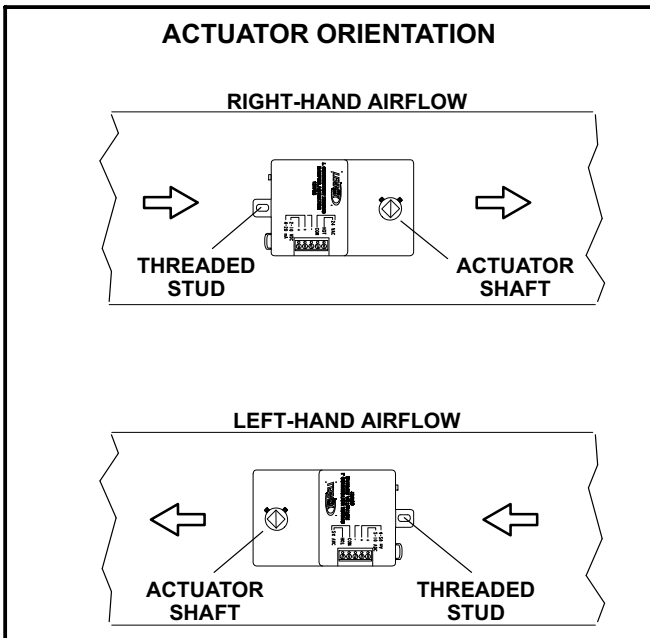

FIGURE 7
- 7- Slide actuator shaft onto damper shaft and actuator tab onto threaded stud on damper. See figure 7.